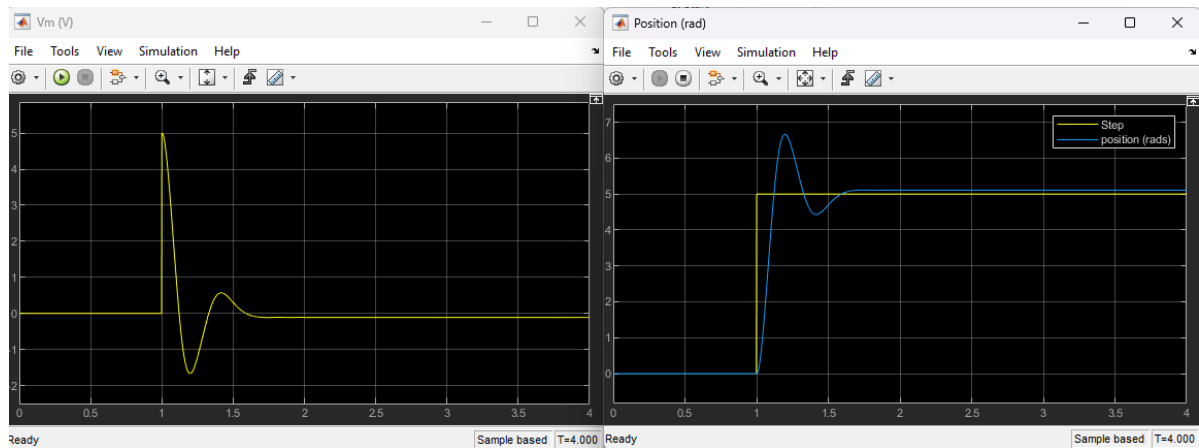

Figure 2: Example unity feedback Qube-Servo 3 step response.
10. Take a screenshot of the response in the scopes. It should look similar to the response below in Figure 2 but it should only have been run for 2.5 seconds.